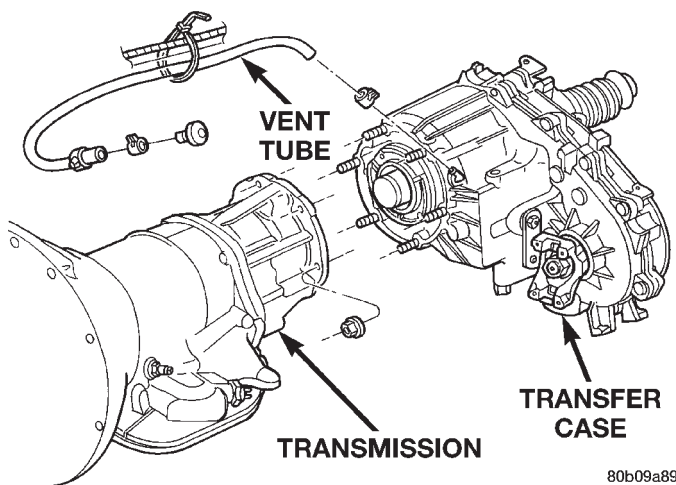

Fig. 2 Transfer Case Mounting
- (1) Shift transfer case into Neutral.
- (2) Raise vehicle.
- (3) Drain transfer case lubricant.
- (4) Mark front and rear propeller shaft yokes for alignment reference.
- (5) Support transmission with jack stand.
- (6) Remove rear crossmember, or skid plate.
- (7) Disconnect front/rear propeller shafts at transfer case.
- (8) Disconnect vehicle speed sensor wires.
- (9) Disconnect transfer case linkage rod from range lever.
- (10) Disconnect transfer case vent hose (Fig. 2) and indicator switch harness, if necessary.
- (11) Support transfer case with transmission jack.
- (12) Secure transfer case to jack with chains.
- (13) Remove nuts attaching transfer case to transmission.
- (14) Pull transfer case and jack rearward to disengage transfer case.
- (15) Remove transfer case from under vehicle.
- (1) Mount transfer case on a transmission jack.
- (2) Secure transfer case to jack with chains.
- (3) Position transfer case under vehicle.
- (4) Align transfer case and transmission shafts and install transfer case on transmission.
- (5) Install and tighten transfer case attaching nuts to 35 N·m (26 ft. lbs.) torque (Fig. 2).
(6) Connect vehicle speed sensor wires, and vent hose.
(7) Connect indicator switch harness to transfer case switch, if necessary. Secure wire harness to clips on transfer case.
(8) Align and connect propeller shafts. Refer to Group 3, Differential and Driveline, for proper procedures and specifications.
(9) Fill transfer case with correct fluid. Check transmission fluid level. Correct as necessary.
(10) Install rear crossmember, or skid plate. Tighten crossmember bolts to 41 N·m (30 ft. lbs.) torque.
(11) Remove transmission jack and support stand.
(12) Connect shift rod to transfer case range lever.
(13) Adjust transfer case shift linkage.
(14) Lower vehicle and verify transfer case shift operation.